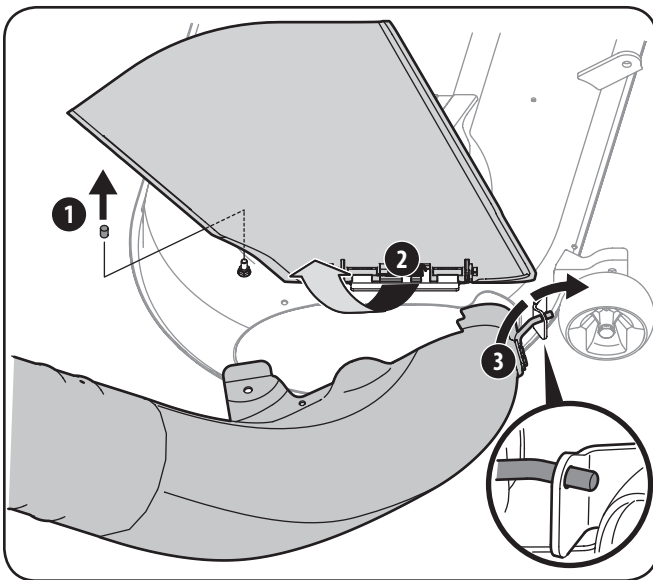

Figure 4-14
Determine if your deck is a newer model, or an older model. Refer to (1) in Figure 4-14. If your deck has a mounting stud present, then you have a newer deck model and you should refer to the instructions that follow. If no stud is present, refer to the instructions titled **On Tractors With Older Deck Configurations** later in this section.
- If present, remove the protective cap off of the mounting stud on the mowing deck as shown in (1) of Figure 4-14.
- With the tractor's discharge chute raised up and held open (2), install the chute elbow by placing the chute elbow mounting pin into the hole provided (3), as shown in Figure 4-14.